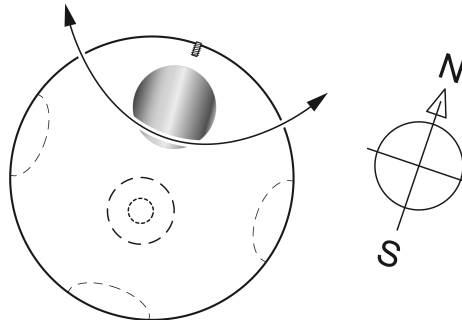

Figure 9: Orienting the weather station
- Align the sensor head in the appropriate direction or - depending on the detailed on-site circumstances - according to the alignment of the facade (Figure 9).